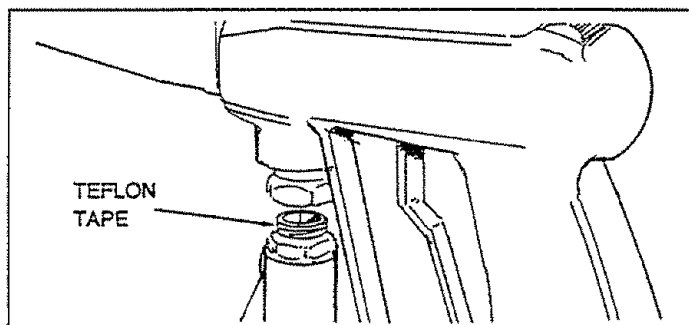

FIG. 6
- Attach fitting with teflon tape to gun and wand assembly (Fig. 6). You may want to spin gun. Tighten with adjustable wrench to keep hose from twisting.